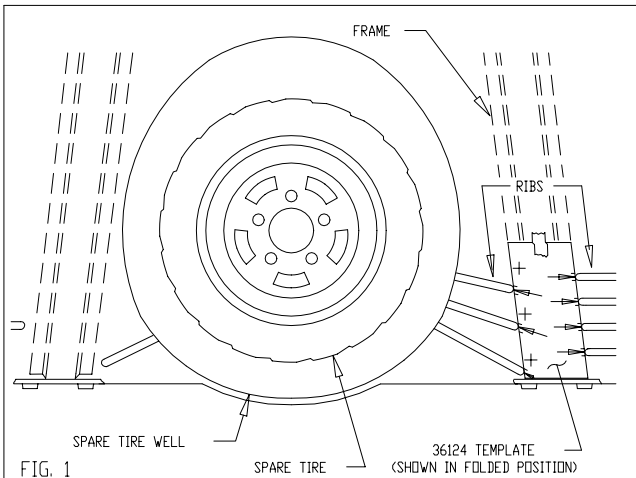

FIG. 1
- PLACE TEMPLATE INSIDE TRUNK ON PASSENGER'S SIDE OF SPARE TIRE WELL, SEE FIG. 1.
- CENTER PUNCH THREE (3) PLACES AS SPECIFIED ON 36124 TEMPLATE. REMOVE TEMPLATE. DRILL THREE (3) 1/8" HOLES DOWN THROUGH TRUNK PAN AT CENTER PUNCHED LOCATIONS. CHECK HOLE ALIGNMENT UNDER VEHICLE AND ADJUST AS NECESSARY. ENLARGE HOLES TO 9/16".